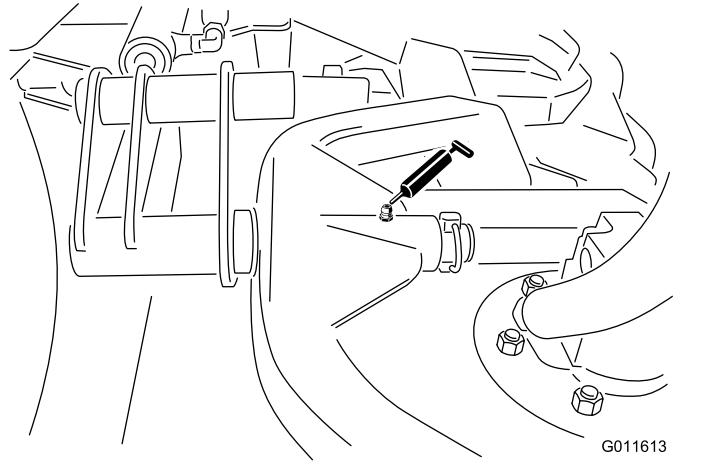

Figure 43
- Cutting unit carrier-frame pivot (1 each)—Figure 43